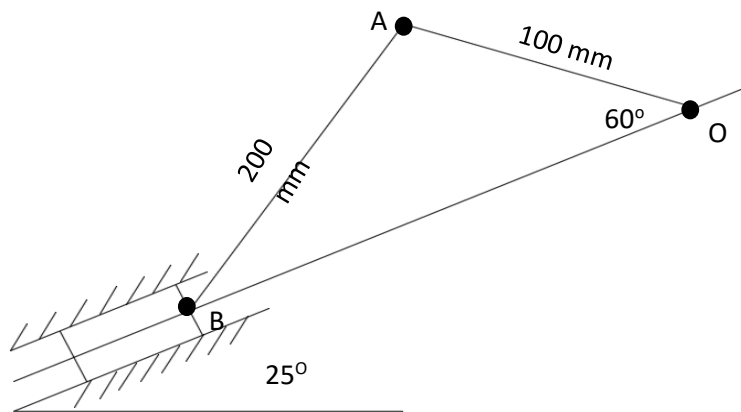

Figure 3(c)/Rajah 3(c)
- (c) The mechanism of a piston, connecting rod and crank is shown in Figure 3(c). The crank OA with a radius 100 mm rotates counter clockwise at a constant velocity 500 rad/s.